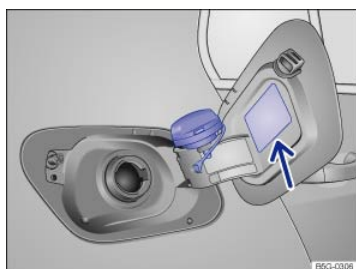

Fig. 143 Rear passenger side of vehicle: Fuel cap placed on the open fuel filler flap.
- Unscrew the fuel cap counterclockwise and remove. Use the slot on the fuel filler flap hinge ⇒ Fig. 143 to hold the cap while refueling.
The minimum required fuel grade for your vehicle ⇒ Fuel types is listed on a sticker on the inside of the fuel filler flap ⇒ Fig. 143 (arrow). This sticker may also be on the hinge of the fuel filler flap.
The minimum required fuel grade for your engine is shown on a sticker on the inside of the fuel filler flap ⇒ Fig. 143.